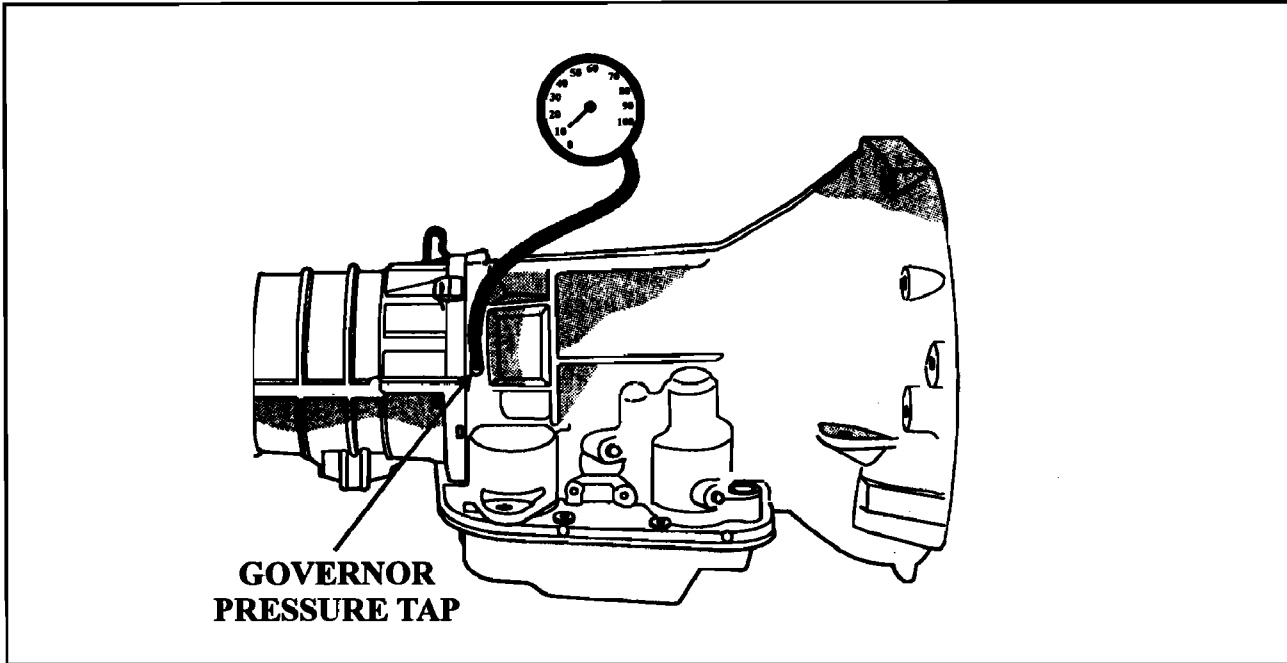

Figure 1
**CORRECTION (A):**
- (1)** If the vehicle has a wrong gear start and upshifts to fourth gear, place a pressure gauge on the governor tap, as shown in Figure 1. Should 0 PSI be observed while taking off in second gear, a sticking 1-2 shift valve is the cause. To correct this condition will require removing the valve body and freeing the 1-2 shift valve.
- (2)** Chryslers dedicated DRB III scanner displays governor pressure sensor values that the computer monitors. The governor pressure sensor provides information to the computer as to the approximate pressure in the governor circuit. If at a stop, the sensor tells the computer that 0 PSI is in the governor circuit, but a pressure gauge reveals that there is actually 12 PSI in the governor circuit, the computer does not know to cycle the governor solenoid to a lower pressure since it already thinks it is at 0 PSI. If the sensor indicates that 12 PSI is in the governor circuit, and the pressure gauge verifies it, this means that the sensor is working properly and the governor pressure solenoid is most likely defective and will need to be replaced.
- (3)** Without the DRB III scanner, voltage checks will have to be made on the governor pressure solenoid wire, and the governor pressure sensor wire with your DVOM, while a pressure gauge is attached to the governor pressure port as shown in Figure 1. Following is the procedure for these tests.